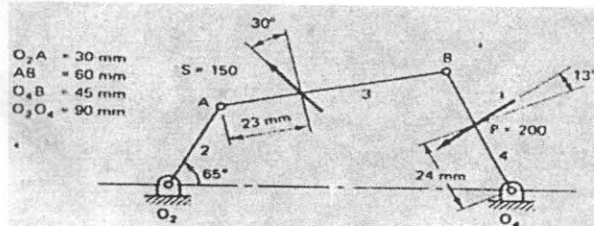

fig.7(b)
- b) The 4 bar mechanism as shown in fig.7(b). has one external force $P = 200 \text{ N}$ and one inertia force $S = 150 \text{ N}$ acting on it. The system is in dynamic equilibrium as a result of torque T_2 applied to link 2. Find T_2 and pin forces.